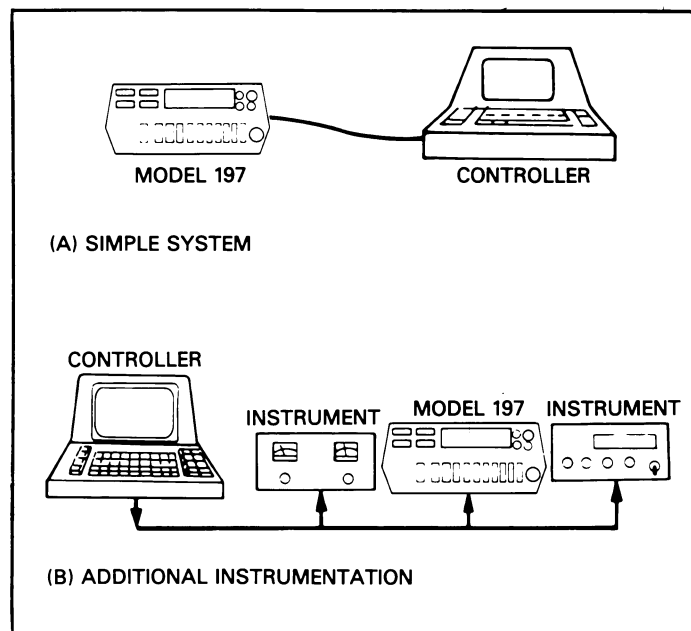

Figure 3-1. System Types
Figure 3-1 shows two typical system configurations. Figure 3-1(A) shows the simplest possible controlled system. The controller is used to send commands to the instrument, which sends data back to the controller.
The system becomes more complex in Figure 3-1(B), where additional instrumentation is added. Depending on programming, all data may be routed through the controller, or it may be transmitted directly from one instrument to another. For very complex applications, a much larger computer can be used. Tape drives or disks can then be used to store data.